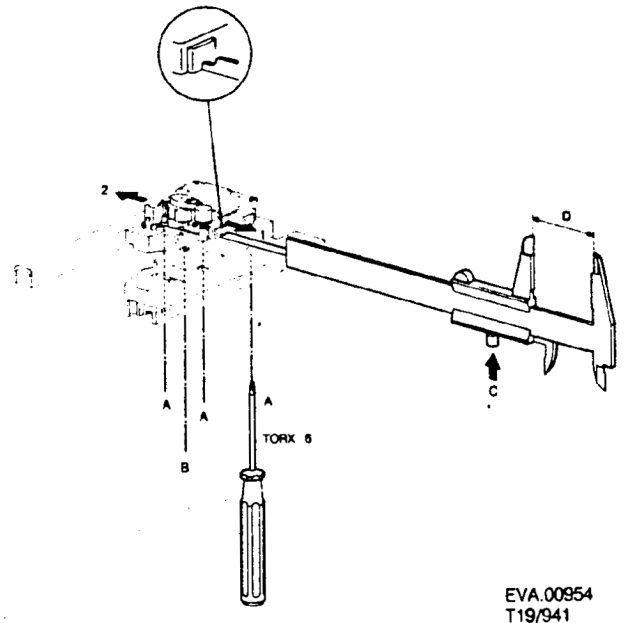

Fig. 19
2. Using a slide gauge, measure with an accuracy of ± 0.05 mm the distance D, shown in fig. 19, of the faulty carriage.